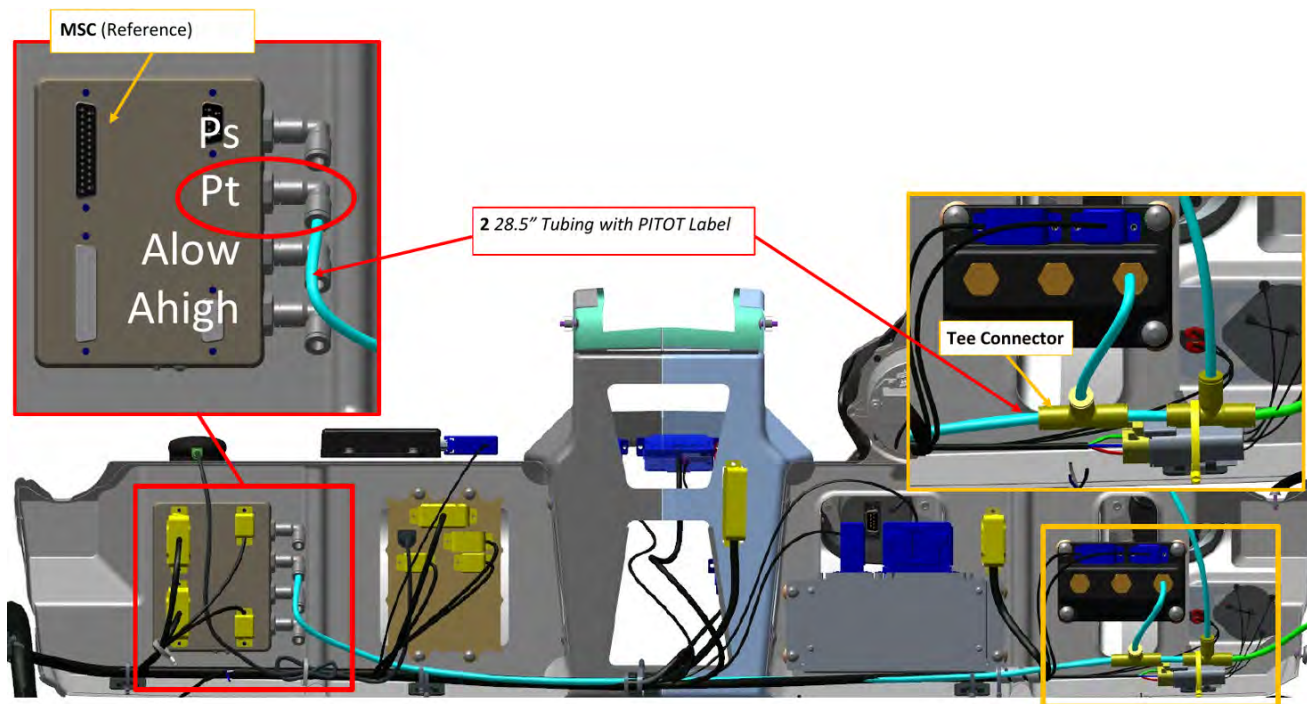

FIGURE 14-54
1. Disconnect tubing from tee connector. Remove from MSC. (See Figure 14-54.)